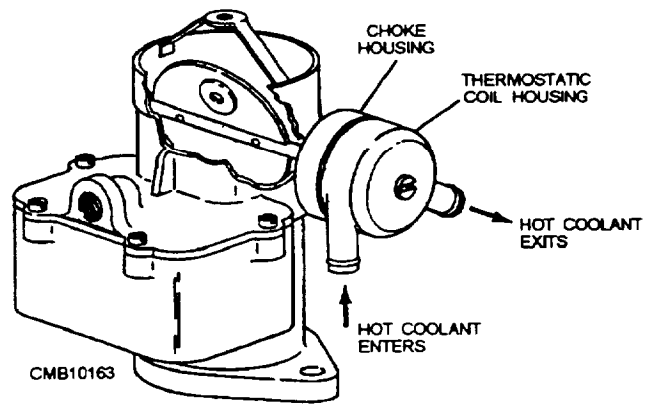

Figure 4-34.—Engine coolant heated choke.
- **ENGINE COOLANT** (fig. 4-34) uses a passage in the thermostat housing to circulate engine coolant for heating the thermostatic spring.